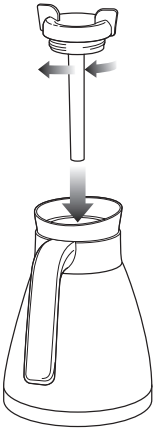

Fig. 7
- 5 Twist the brew-through lid clockwise onto the thermal carafe to lock into place. (Fig. 7)